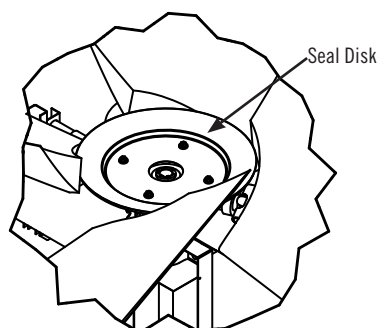

Figure 24. Remove Seal Disk
1. Remove fan seal disk (**Figure 24**).